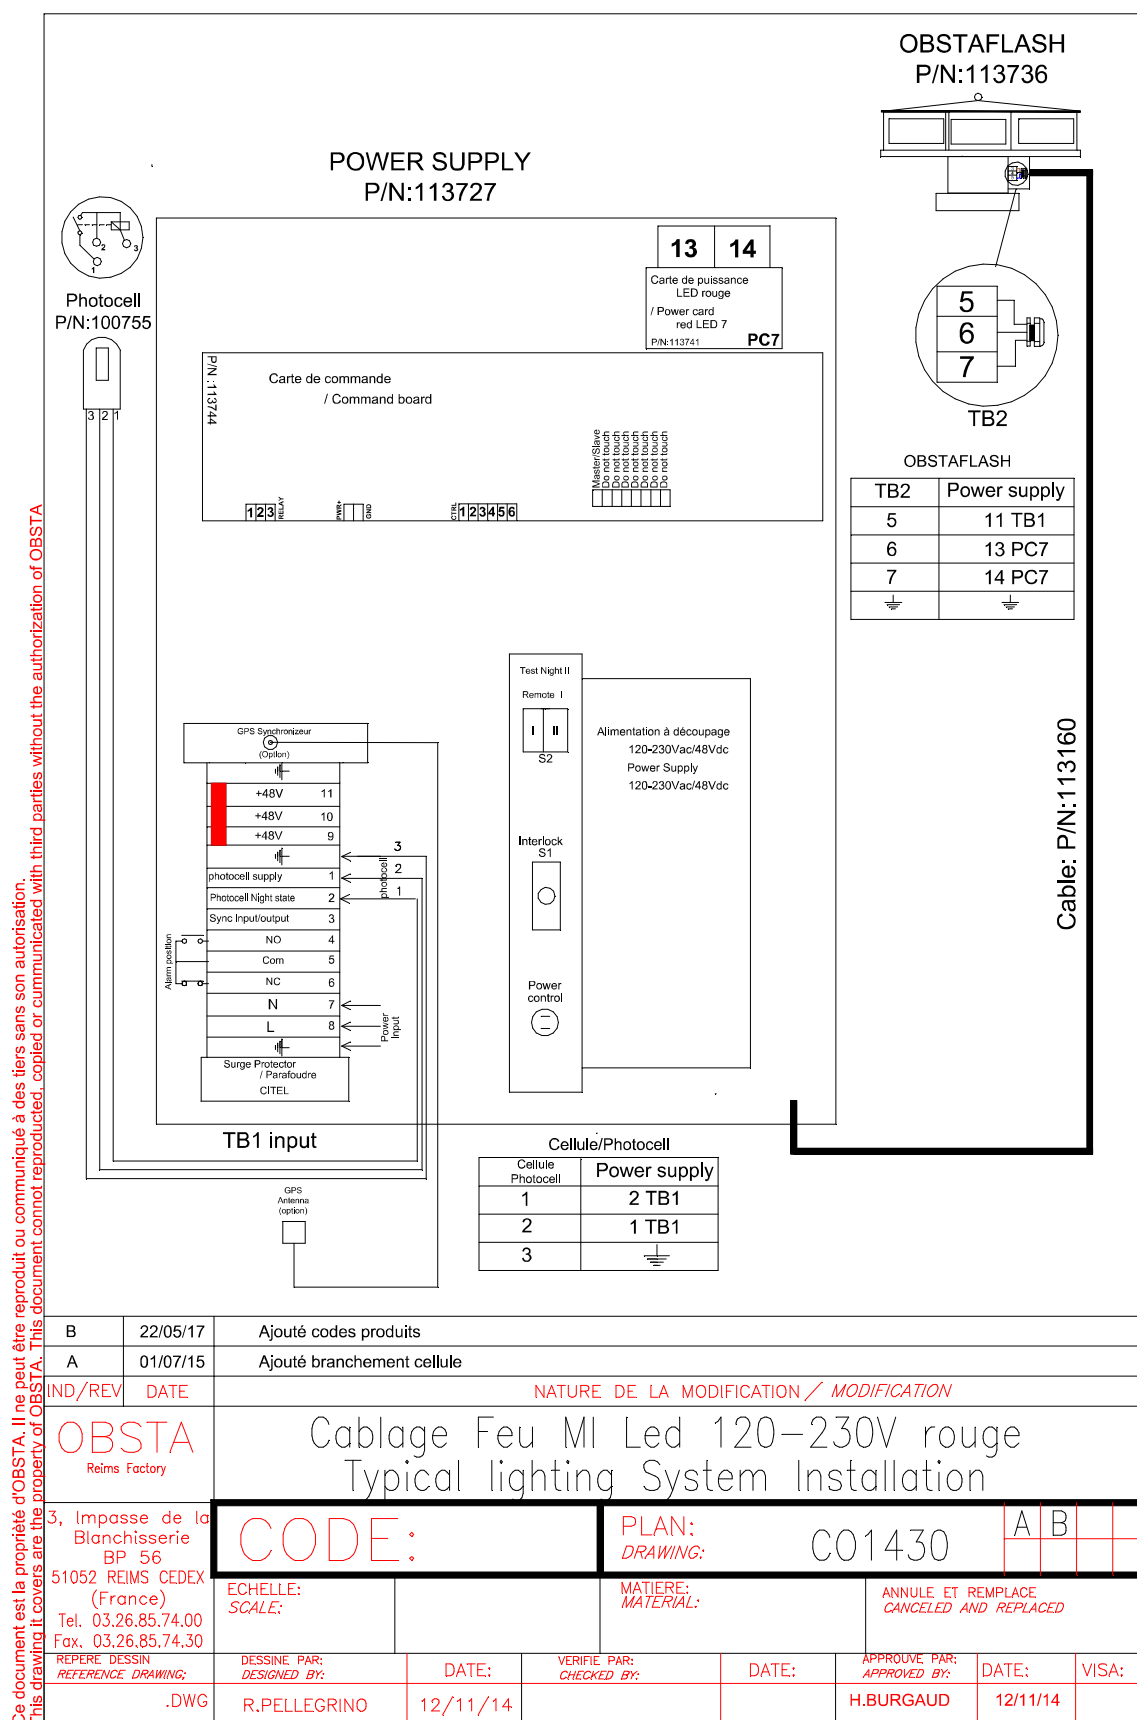

Figure 2-1. WIRING DIAGRAM OF OBSTAFLASH P/N: 113724-100755-113160
2.2.2 Wiring of the flash-head (figure 2-1)